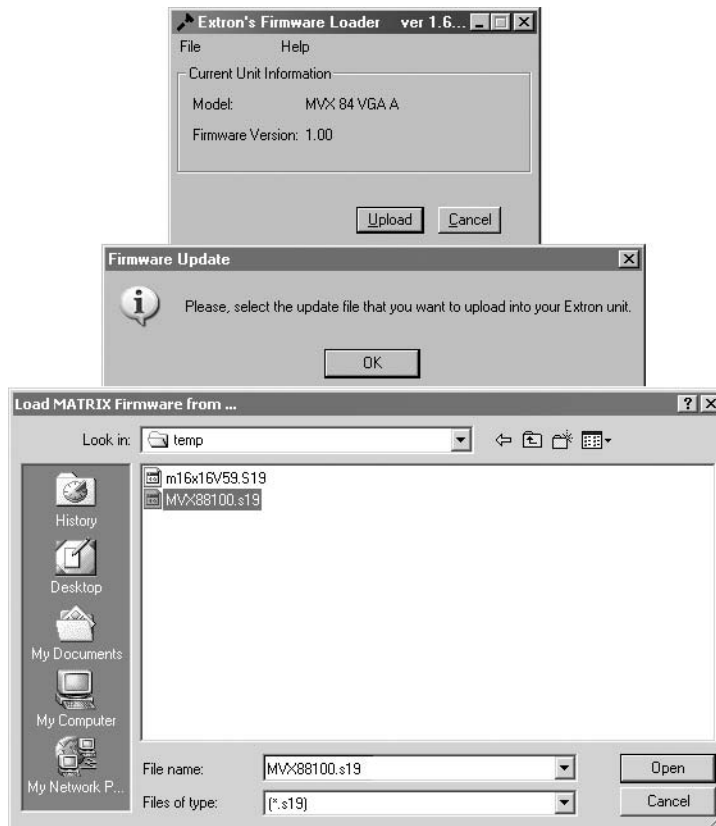

Figure 4-11 — Open window
3. Click **Tools > Update firmware**. The Extron Firmware Loader appears (figure 4-11).